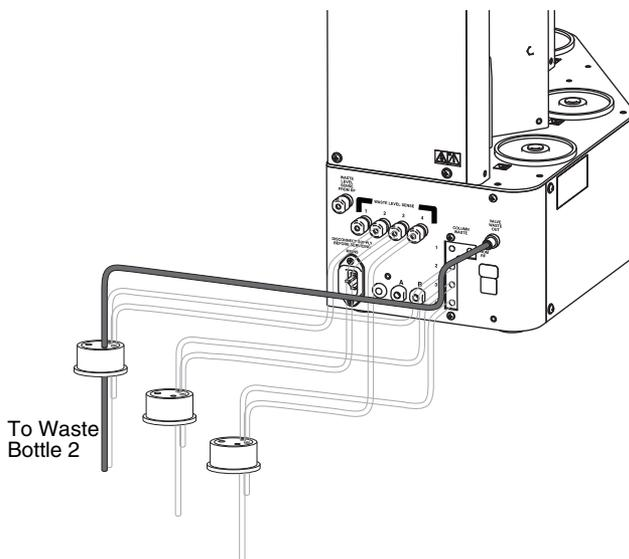

Figure 4-10 Valve Waste Out routed to Channel 2
8. The post-run valve cleaning fluids share a common port for channels 2 through 4. Select the 48 inch (120 cm) length of black tubing from the accessory package and connect it to the Valve Waste Out bulkhead fitting on the Rf 4x module. Route the other end of this tubing to one of the waste bottles. (The channel 2 waste bottle is shown in Figure 4-10.) You can alternatively route it to a container other than those used for channels 2 through 4, however the system will not be able to detect the level and prevent overflowing.